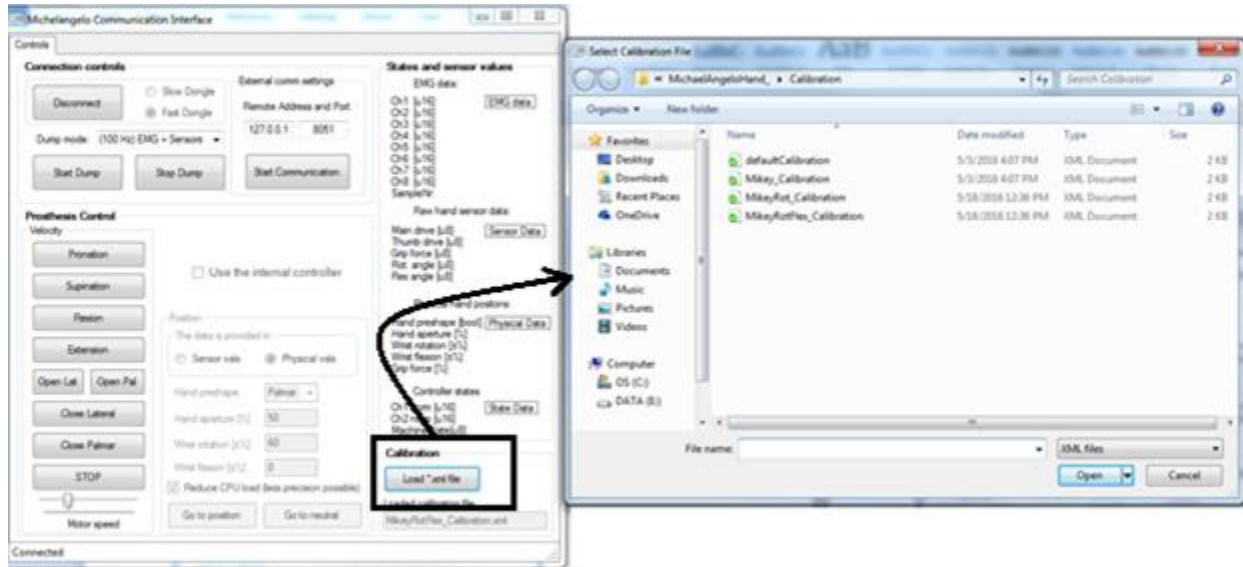

Figure 3: Loading the Calibration File
4. Loading the Calibration File: The prosthesis sends sensor data to our GUI, but this sensor data is 'raw'. The calibration file is used to convert raw sensor data to human readable normalized sensor data. To load the calibration file click on the "Load *.xml file" (see Figure 3). Under the file path .../ MichaelAngeloHand/Calibration/..., you will find four Calibration files. Select the appropriate file name based on the prosthesis you have (and click Open). In case that you don't care for the position control or sensor data (e.g., you just want to read the EMG, or to use velocity control, use the defaultCalibration.xml)